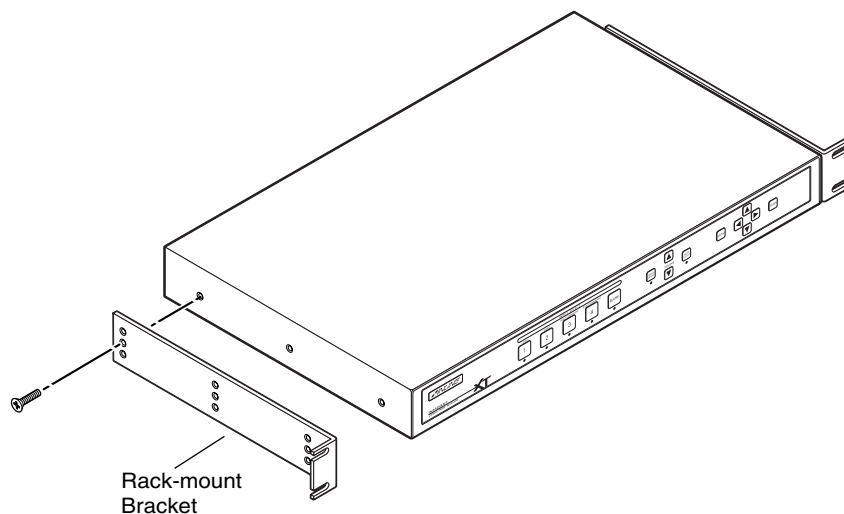

Figure 2-1 — Mounting the scaler
1. Remove the three enclosure screws on one side of the scaler (figure 2-1).